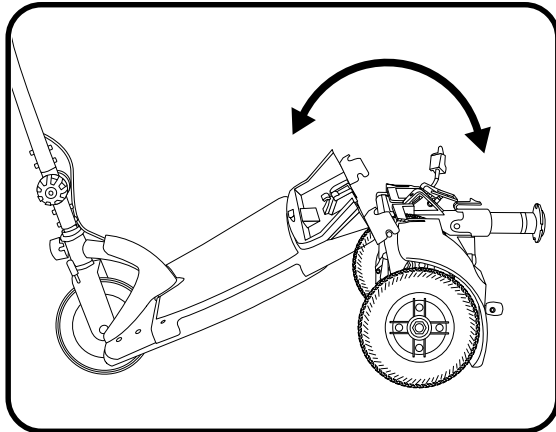

Figure 16. Frame Positioning
1. Push back on the seat post to pivot the scooter's rear section rearward until the rear section is standing vertically on its bumper. **See figure 16.**
3. Holding the seat post, slowly pivot the rear section forward until the curved locking brackets are fully connected onto the top rear pegs. **See figure 16.**